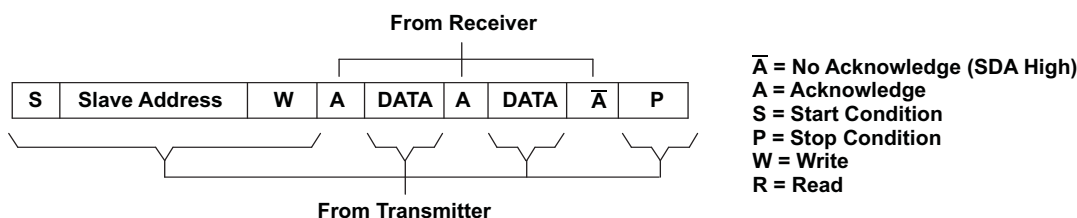
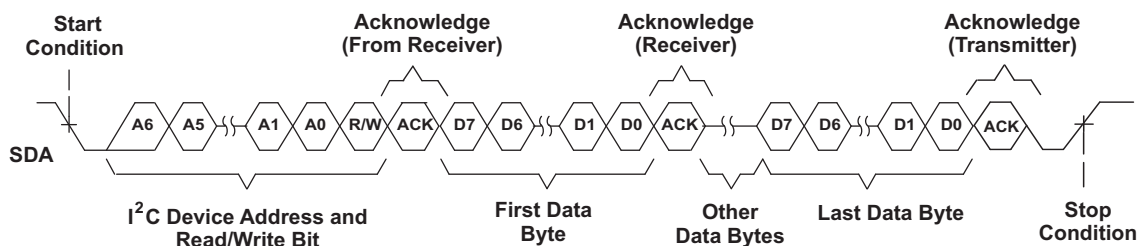
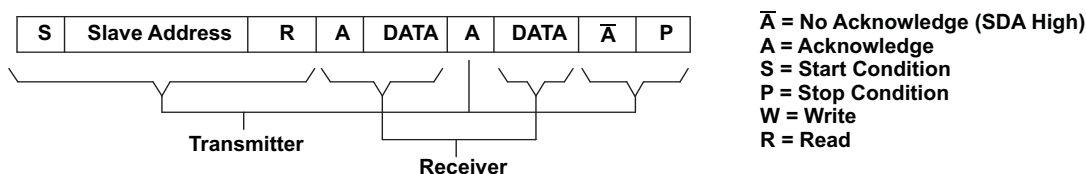
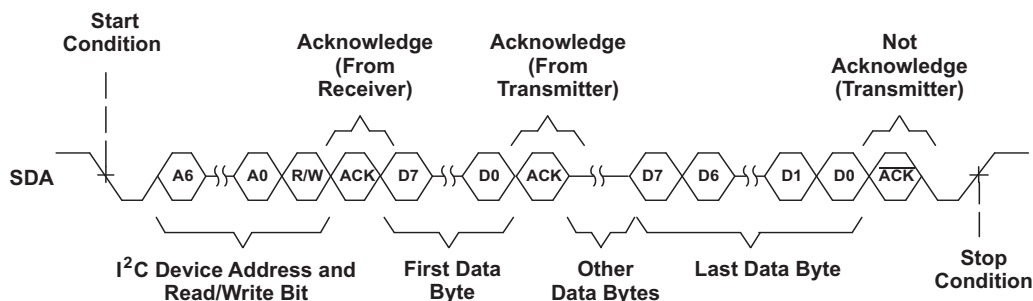

Figure 13. I²C Write Cycle
Figure 14. Multiple Byte Write Transfer
Figure 15. I²C Read Cycle
Figure 16. Multiple Byte Read Transfer
During a write cycle, the transmitting device must not drive the SDA signal line during the acknowledge cycle, so that the receiving device may drive the SDA signal low. After each byte transfer following the address byte, the receiving device pulls the SDA line low for one SCL clock cycle. A stop condition is initiated by the transmitting device after the last byte is transferred. An example of a write cycle can be found in Figure 13 and Figure 14. Note that the THS7327 does not allow multiple write transfers to occur. See **Example – Writing to the THS7327** section for more information.
During a read cycle, the slave receiver acknowledges the initial address byte if it decodes the address as its address. Following this initial acknowledge by the slave, the master device becomes a receiver and acknowledges data bytes sent by the slave. When the master has received all of the requested data bytes from the slave, the not acknowledge (A) condition is initiated by the master by keeping the SDA signal high just before it asserts the stop (P) condition. This sequence terminates a read cycle as shown in Figure 15 and Figure 16. Note that the THS7327 does not allow multiple read transfers to occur. See **Example – Reading from the THS7327** section for more information.
The THS7327 operates using only a single byte transfer protocol similar to Figure 13 and Figure 15. The internal subaddress registers and the functionality of each are found in Table 2. When writing to the device, it is required to send one byte of data to the corresponding internal subaddress. If control of all three channels is desired, then the master has to cycle through all the subaddresses (channels) one at a time, see the **Example – Writing to the THS7327** section for the proper procedure of writing to the THS7327.